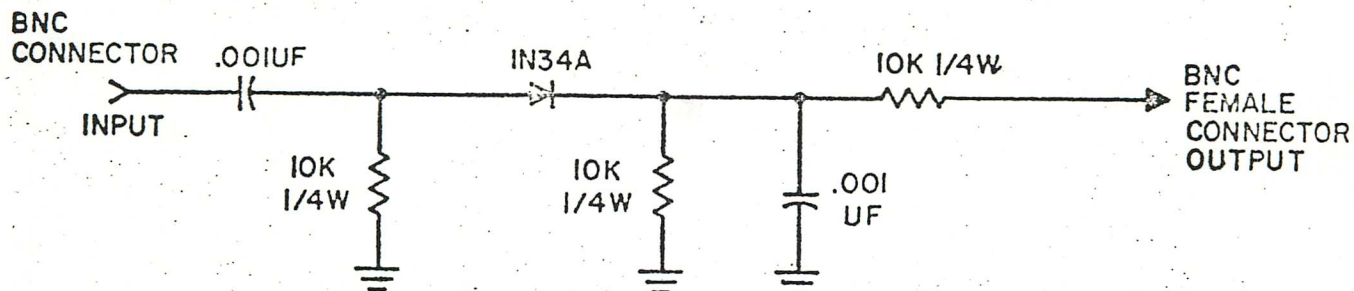
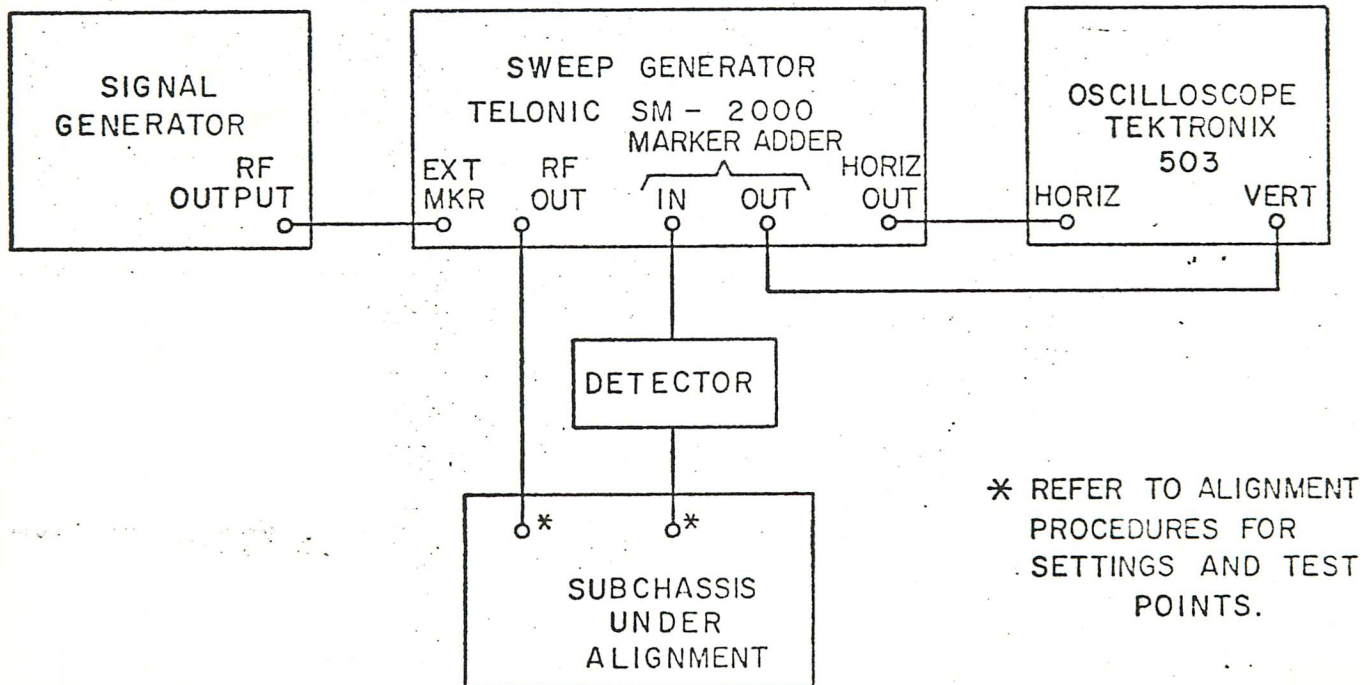
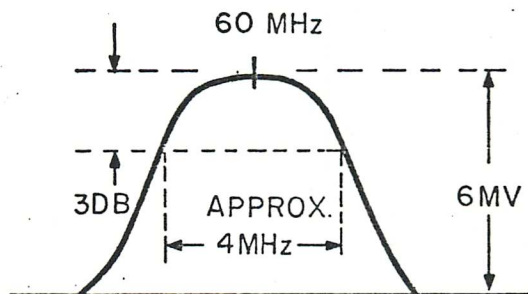

Figure 5-1. High Impedance Detector.
Figure 5-3. Alignment Test Setup.
Figure 5-6. Converter Response, J2 Output.
- High Impedance Detector, Figure 5-1
- (1) Connect test equipment, Figure 5-3. The RF output of the sweep generator should be connected to J1 on the RF tuner and the high impedance detector, Figure 5-1, should be connected to TP1.
- (1) Connect the test equipment as shown in Figure 5-3. The RF output of the sweep generator should be connected to J1 on
- (1) Remove five screws which secure the cover to the converter assembly.
- (2) Connect a 60 ohm resistor across the output to the SDU at J2.
- (3) Connect the test equipment, Figure 5-3. The RF output of the sweep generator should be connected to J1 and the 50 ohm detector XD3A should be connected to J2 SDU out.
- (4) Set the sweep generator and signal generator output frequency to 60 MHz.
- (5) Adjust the horizontal gain of the oscilloscope for full scale deflection.
- (6) Set the vertical gain to 2 millivolts per centimeter and the sweep generator output level for a 3 cm response on the oscilloscope.
- (7) Adjust the output level of the signal generator and the marker SIZE control on the sweep generator for a small 60 MHz "birdie" on the response.
- (8) Locate L1, L2, L3 and L4 on the top of the converter assembly.
- (9) Adjust L1 through L4 for maximum symmetrical response. The 3 dB bandwidth should be approximately 4 MHz, Figure 5-6.
- (10) Remove 60 ohm resistor across R17 and connect XD3A detector to J3, 21.4 MHz IF out.
- (11) Adjust L5 and L6 for maximum symmetrical response. The response shown in Figure 5-1 is applicable only the bandwidth will be narrower, about 3.5 MHz.
- (12) Replace converter cover and install mounting screws.